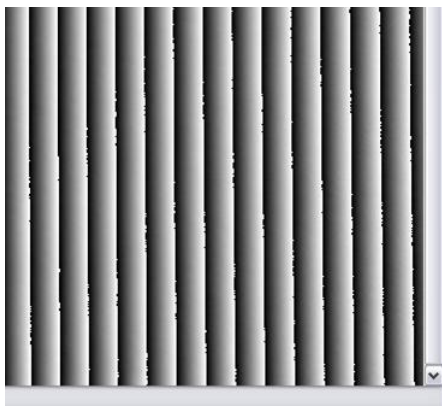
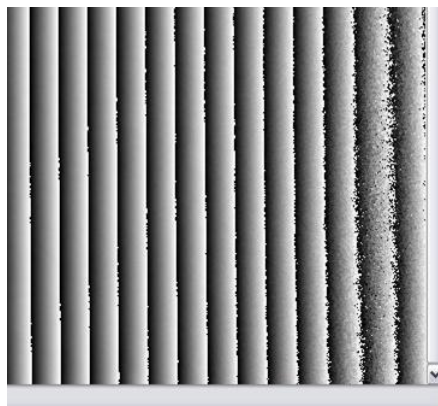

Figure 3.6 Good Phase Image
Figure 3.7 Bad Phase Image
4. After an optimal fringe image is achieved, right click on the image and select **Acquire...** (or **F12**). A phase image and 3D plot of the reference plane appear on the screen. Verify the quality of the displayed results. A good phase image should show smooth gradients from black to white within each fringe. Be sure areas around the edges aren't noisy; this may indicate insufficient contrast (see **Figure 3.6** and **Figure 3.7**). The 3D plot should also look smooth and show no noisy or empty areas. Press **Next** in the wizard window if the displayed data is satisfactory. Otherwise, adjust the settings and acquire another image.